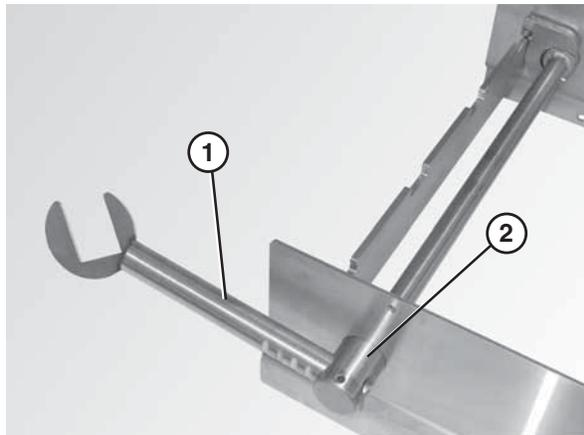

Figure 21
3. Attach the nose bar idler shaft hands (Figure 21, item 1) to the tip up shaft (Figure 21, item 2).